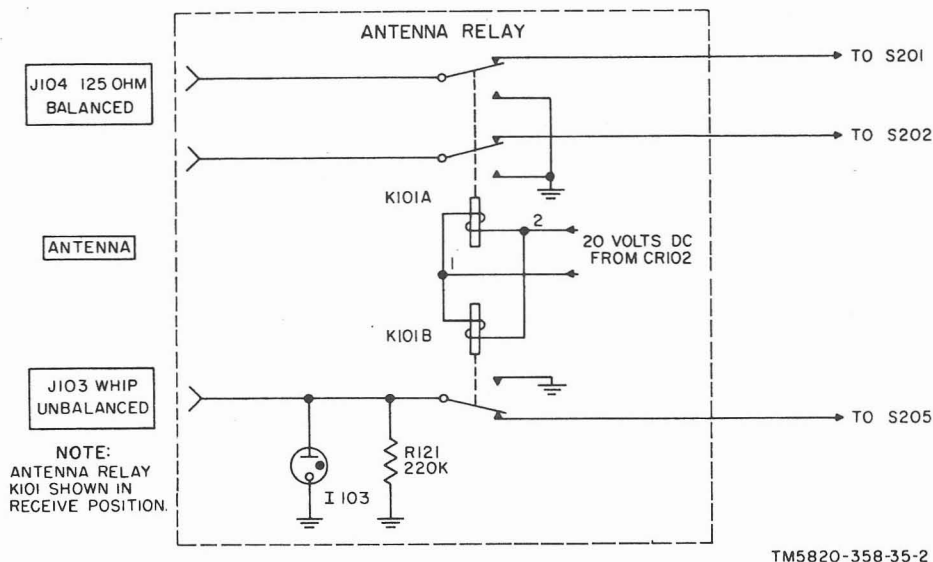

Figure 1. Antenna relay circuit, simplified schematic diagram.
6. Antenna Circuit (fig. 1 and 2)